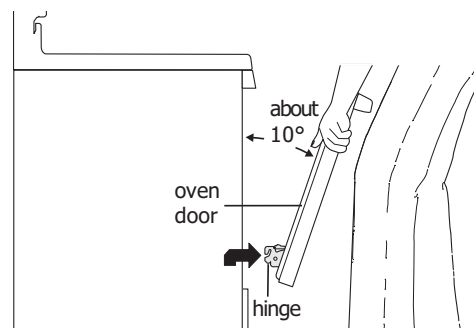

Figure 19: Holding door for removal
3. Firmly grasp both sides of oven door along the door sides. Do not use the oven door handle (Figure 19).
1. Firmly grasp both sides of oven door along the door sides. Do not use the oven door handle (Figure 19).